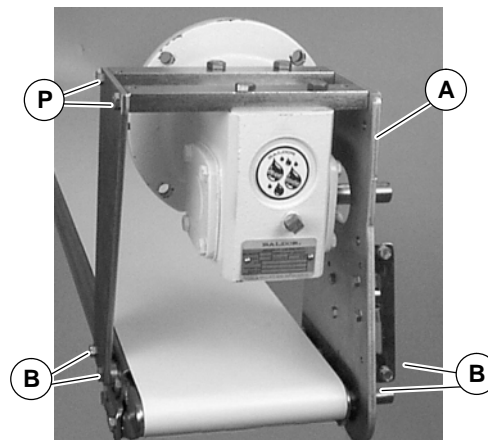

Figure 4
- 4a. For 4" (102mm) and wider conveyors, loosen (but do not remove) screws (P of Figure 4). Attach top mount assembly (A) to conveyor with screws (B). Tighten screws (B) and (P) to 92 in-lb (10.4 Nm).